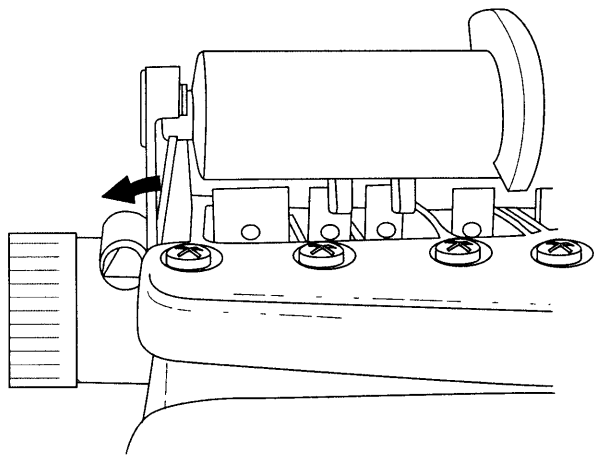

Figure 17
4. Remove the camshaft by carefully pushing the securing tab, located at the rear of the camshaft, away from the camshaft until the tab disengages from the camshaft. Push the back of the camshaft down and out to the inlet side of the valve (Figure 17).